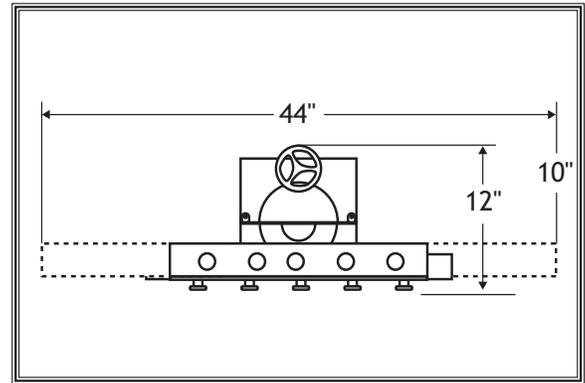

Figure 4. Minimum working clearances.
- **Working Clearances:** Consider existing and anticipated needs, size of material to be processed through the machine, and space for auxiliary stands, work tables, or other machinery when determining where to locate this machine. See **Figure 4** for the minimum working clearances